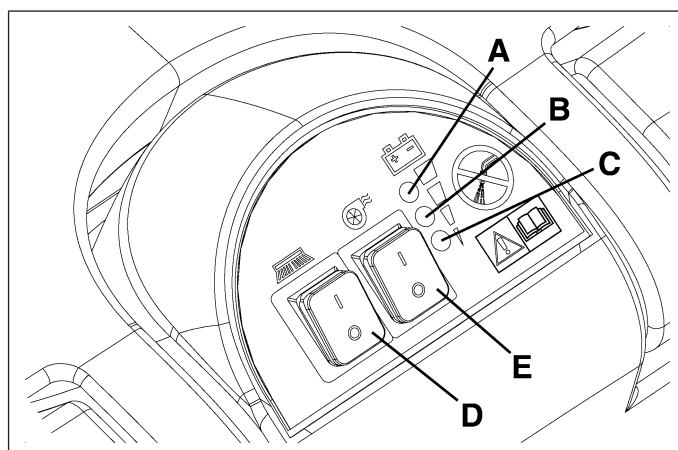

Figure 17
The overload is shown by the three warning lights (A, B, C, Fig. 17) flashing simultaneously.
4. Until the green indicator light (A, Fig. 17) stays on, the batteries allow the machine to operate normally. When the green indicator light (A) turns off and the yellow (B) and red (C) warning indicator lights turn on in sequence, it is necessary to charge the batteries.
1. Turn the brush/pad rotation switch and the water vacuuming switch (D and E, Fig. 17) to the "0" position.